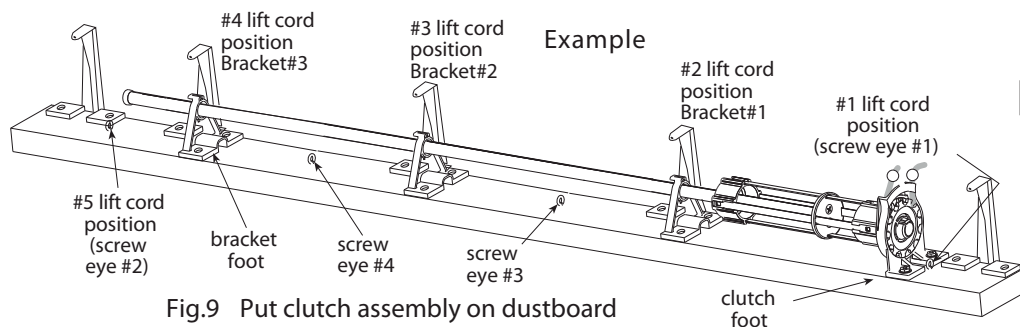
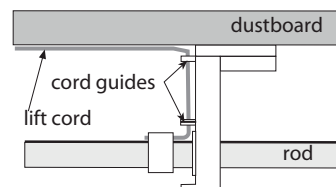

Fig.9 Put clutch assembly on dustboard
Fig.10 Attach edge lift cords for narrow shades
Step 7. All inner lift cords will use a bracket and outer cords use screw eyes. Slide one bracket for each inner lift cord with bracket feet (see Fig.9) pointing toward the clutch. In Fig.9, for example , the shade uses 3 interior lift cords and 2 edge lift cords. #2, 3 & 4 lift cords are inner lift cords. #1 (screw eye #1) and #5 (screw eye #2) lift cords are edge cords. Screw eyes #3 and #4 are then used to route edge cords (#1 & #5) to the rod unless there are only two lift cords on the shade. Since most shades have more than 2 lift cords, this is usually not an issue. When only 2 lift cords are used on a shade, two brackets are used to route the edge lift cords to the rod (See section titled For Narrow Shades on page 4, and Fig.10). Remember 5 lbs maximum load per lift cords.
Step 9. Position clutch/rod/brackets assembly on dustboard $\frac{1}{4}$ ” from screw eye #1 or if no edge lift cords are used, position 2” from edge of dustboard. Use a straight edge rule to make sure the clutch and the brackets are lined up properly, and the rod is centered on the dustboard. Temporarily screw clutch to the dustboard until ready to attach the screw eyes. Starting with lift cord position #2, slide the bracket along the rod to align the lift cord guides with the 2nd column of lift cord rings on the shade (see Fig.9 and Fig.10). Mark the bracket screw hole locations. Screw eyes will be positioned midway between brackets 1 & 2 and 2 & 3. Mark all remaining brackets and screw eyes in order of lift cord position. Remove clutch/rod/brackets assembly and attach screw eyes to dustboard. Screw clutch to dustboard with $\frac{3}{16}$ ” x #6 screws. Screw the brackets and shade stops to dustboard. Loosen screws on all brackets $\frac{1}{4}$ turn but not the clutch. Test to ensure rod moves freely on spears and through brackets. This system will not work properly if the rod does not move freely. If it does not, the problem will be related to improper alignment between brackets or clutch.